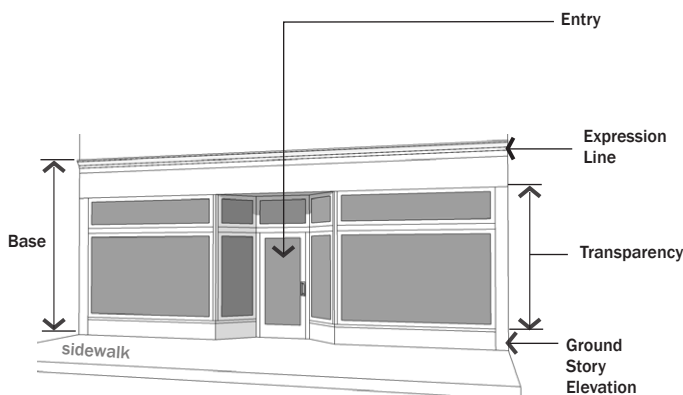

Figure 10-21-4I (1). Storefront Entrance Type.
2. **Storefront Entrance Type.** (Refer to Figure 10-21-4I (1)). The Storefront entrance type is a highly transparent ground story treatment designed to serve primarily as the display area and primary entrance for retail or service uses.